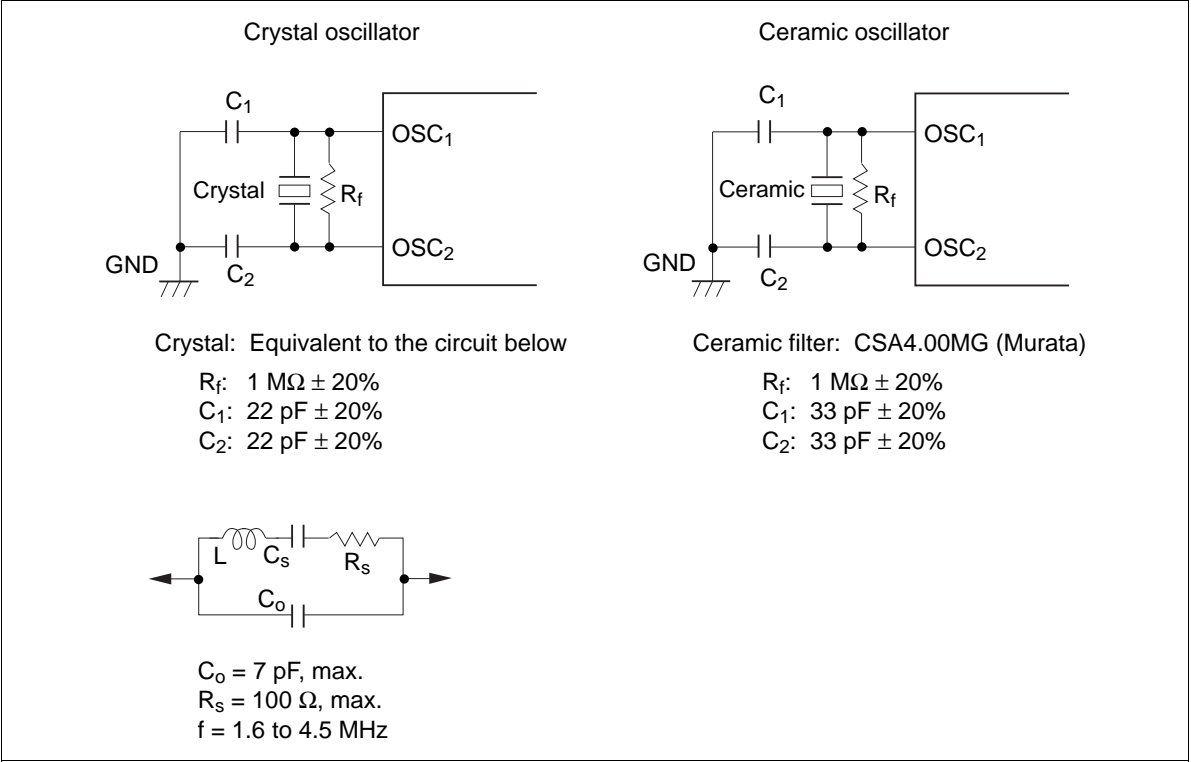

Figure 62 Oscillation Circuits (1)
- Notes: 1. The oscillation stabilization time is the period required for the oscillator to stabilize after V_{CC} reaches 3.0 V (3.5 V if $V_{\text{CC}} = 3.5$ to 6.0 V (HD404439, HD404719), or $V_{\text{CC}} = 3.5$ to 5.5 V (HD4074719)) at power-on or after RESET input goes high after stop mode is cancelled (figure 62). At power-on and when stop mode is cancelled, RESET must remain high for at least t_{RC} to ensure the oscillation stabilization time. If using an oscillator, contact the oscillator manufacturer to determine the circuit constants, since the stabilization time depends on the circuit constants and stray capacitances.